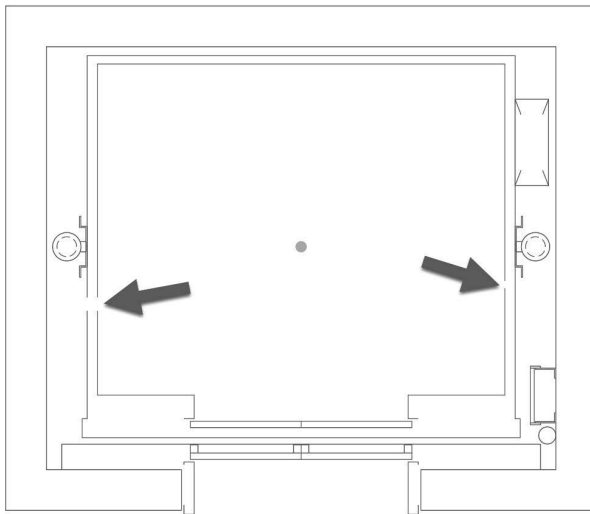

FIGURE 4-3.9 Gaps in linework to be adjusted
- Click on all the text, dimensions, and centerlines until the drawing looks like Figure 4-3.9.
22. **Select** everything in Figure 4-3.9 except the walls which have been shown dashed for clarity (you already have walls in your plan).